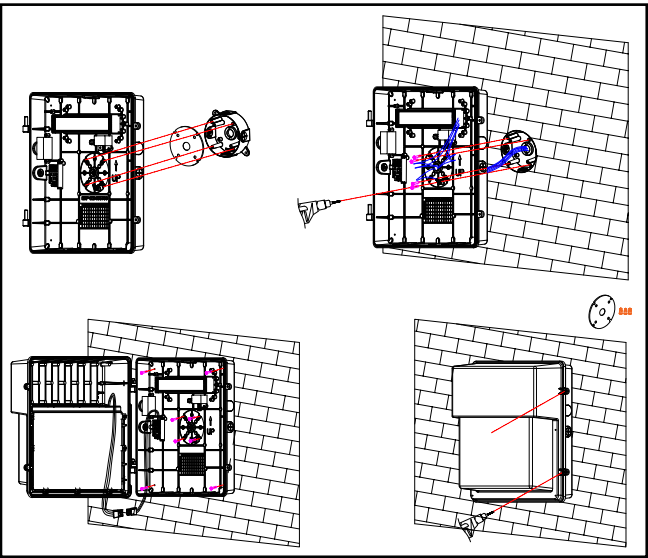

Figure 4
2. Align and drill mounting hole locations and secure back housing to junction box or wall (mounting hardware not supplied) of screw size #8-32*3/4" L type QTY # 4 (Figure 4)